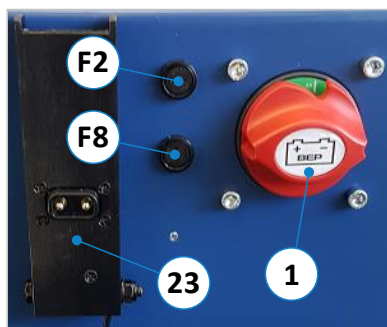

Figure 7: Main switch
Restart after switching off via main switch or push-button (N)	If the remote control is to be put back into operation after being switched off via the main switch (⇒ Figure 7) or push button (N), the radio connection must be re-established. When switching on, the LEDs (L7) + (L8) flash and the LED (L1) next to the button (1) must light up statically. If another LED next to another button lights up instead, the radio connection cannot be established. → Then press the button next to the lit LED once and then press button (1).